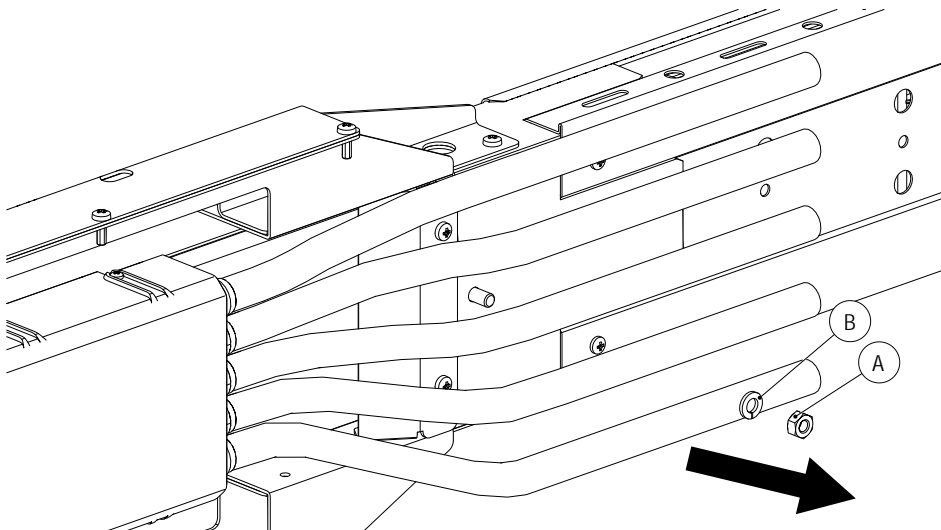

Fig. 72: Loosen rear hexagon nut M6 (A) of anchor point
2. Loosen the rear hexagon nut of the anchor point (A) with an open-end wrench SW 10. Remove the spring washer (B) and the hexagon nut (A) and sufficiently lift for the later installation of the strain relief plate (see Fig. 72).